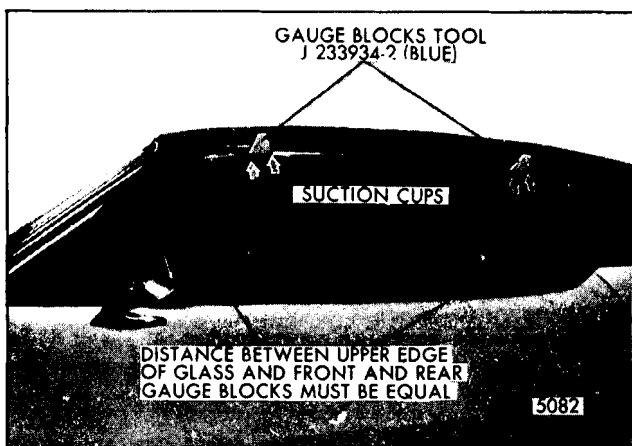

Fig. 6-93-"F" Style Door Window Alignment
in Figure 6-93. Then, install glass suction cups on interior surface of glass (Figure 6-93) to enable adjuster to shift glass when making adjustments with door in a closed position.
IMPORTANT: When installing gauge blocks (blue) or equivalent into upper retainer on "F" styles, handle portion of blocks must protrude outboard (Figure 6-93). Also, grooves on sides of blocks must be fully engaged with side roof rail weatherstrip retainer.
5. Raise door window to approximately 1" from full-up position as illustrated in Figure 6-93. If distance (space) between upper edge of glass and front and rear gauge blocks is equal (as shown in
Figure 6-93), proceed with step number six. If distance (space) between upper edge of glass and both upper gauge blocks is not equal loosen inner pannel cam attaching bolts ("8", Figure 6-91) and adjust as necessary.